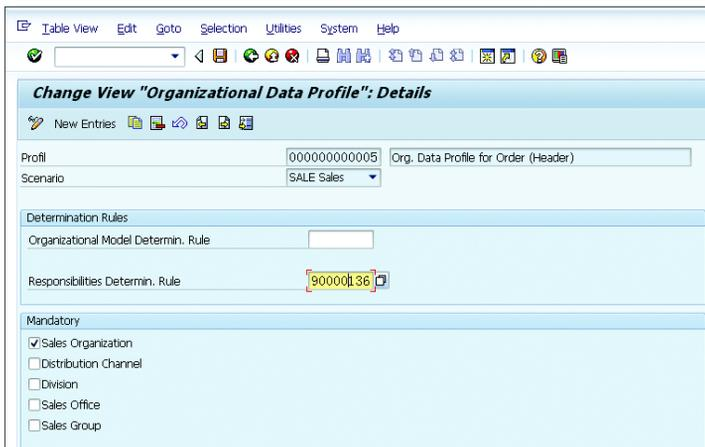

Figure 2.16 Maintain Organizational Data Profile
- Assign the rule you created to the organization data profile as outlined in the configuration path, SPRO • CRM • MASTER DATA • ORGANIZATIONAL MANAGEMENT • ORGANIZATIONAL DATA DETERMINATION • WIZARD FOR ORGANIZATIONAL DATA DETERMINATION • CHANGE RULES AND PROFILES • MAINTAIN ORGANIZATIONAL DATA PROFILE (see Figure 2.16).